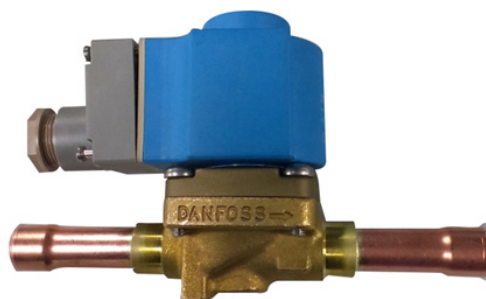

Figure 2-25 Fixing the coil
- 3) Finally, clip the coil of the valve body, press the coil tightly to ensure complete contact between the coil and valve body as displayed in Figure 2-25.